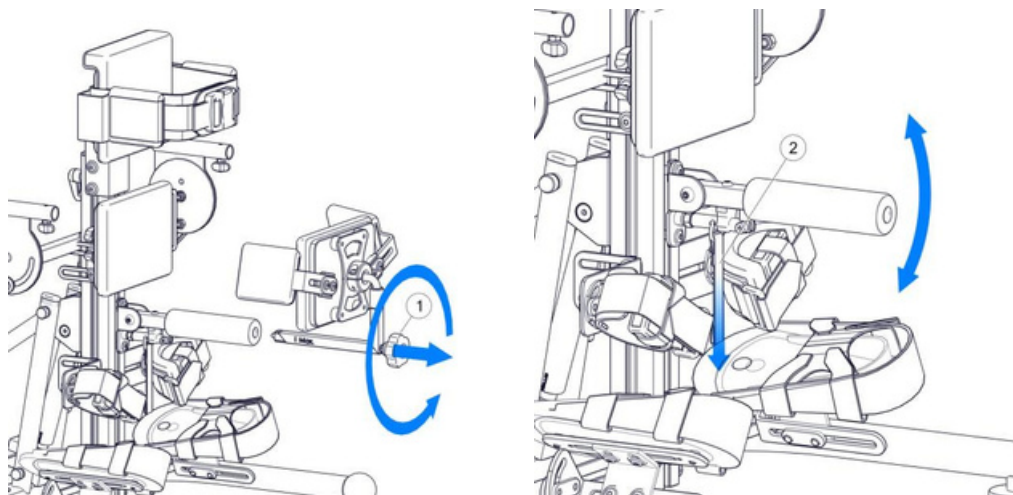
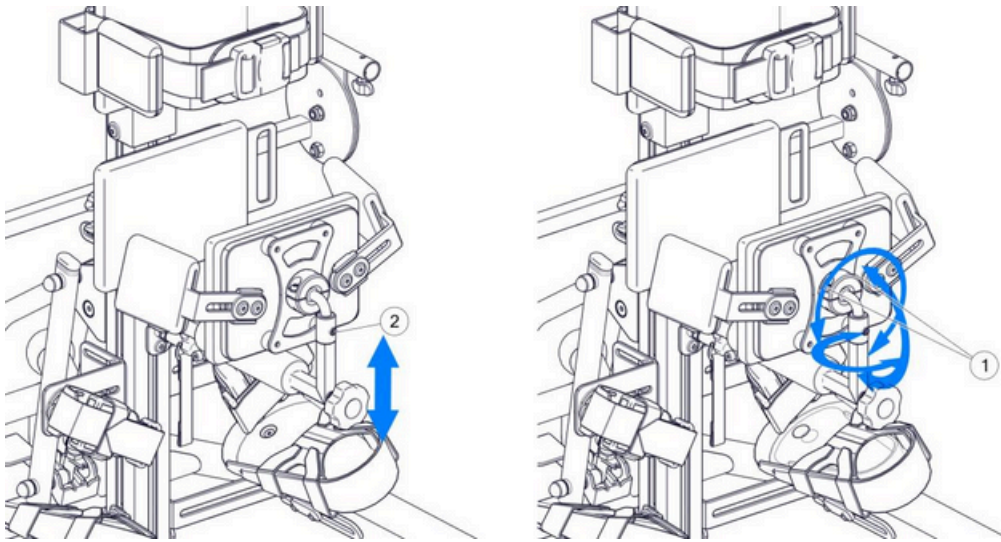

Fig. 28
Fig. 29
See Figure 28
After placing the patient in the device, fix and block the back support bracket. The back support bracket enables precise adjustment within all planes. After setting the depth of the back support, tighten the knob (1) (Fig. 28) and hence block the possibility of pulling out the back support. The maximum distance of the depth of the back support is indicated with the "MAX." mark. The height of the back support may be adjusted by loosening the screw (2) (Fig. 29). After adjusting the height of the back support, block the back support by tightening the screw (2) to the limit. Precise adjustment of the plane of the cushion supporting the back can be obtained by loosening the screws (1) (Fig. 28), and then it is crucial to adjust the location of the back support and tighten the screws once again (1).
See Figure 29